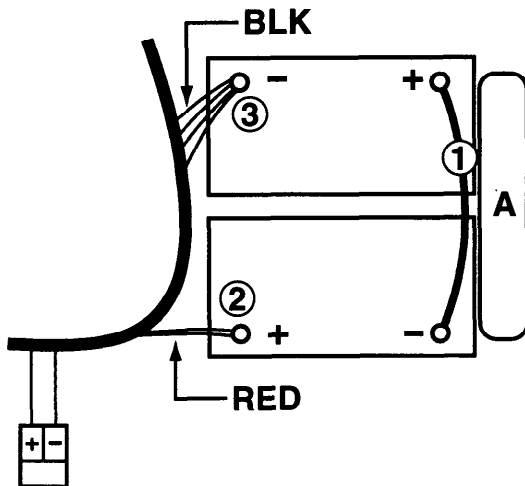

FIG. 3
3. Carefully install batteries into compartment and arrange battery posts as shown. (Figure 3)
5. Connect cables to battery posts in numerical order as labeled (RED TO POSITIVE & BLACK TO NEGATIVE). (Figure 3)